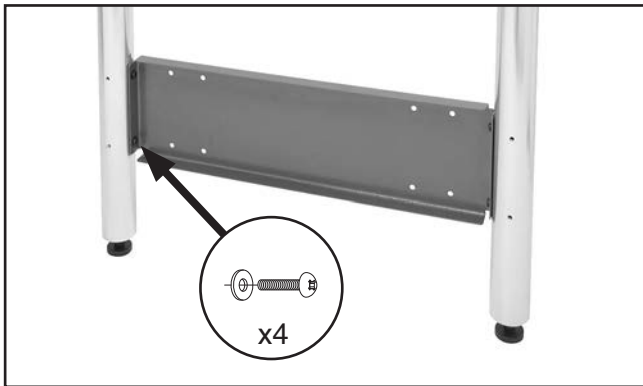

Figure 34. Installing shelf end plate on extension table legs.
- Fasten the shelf end plate to the legs with (4) M6-1 x 12 Phillips head screws and 6mm flat washers, as shown in **Figure 34**.